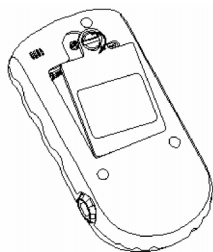

Figure 1
1. Open the rear panel with coin or an ordinary flat screwdriver, as shown in Figure 1.